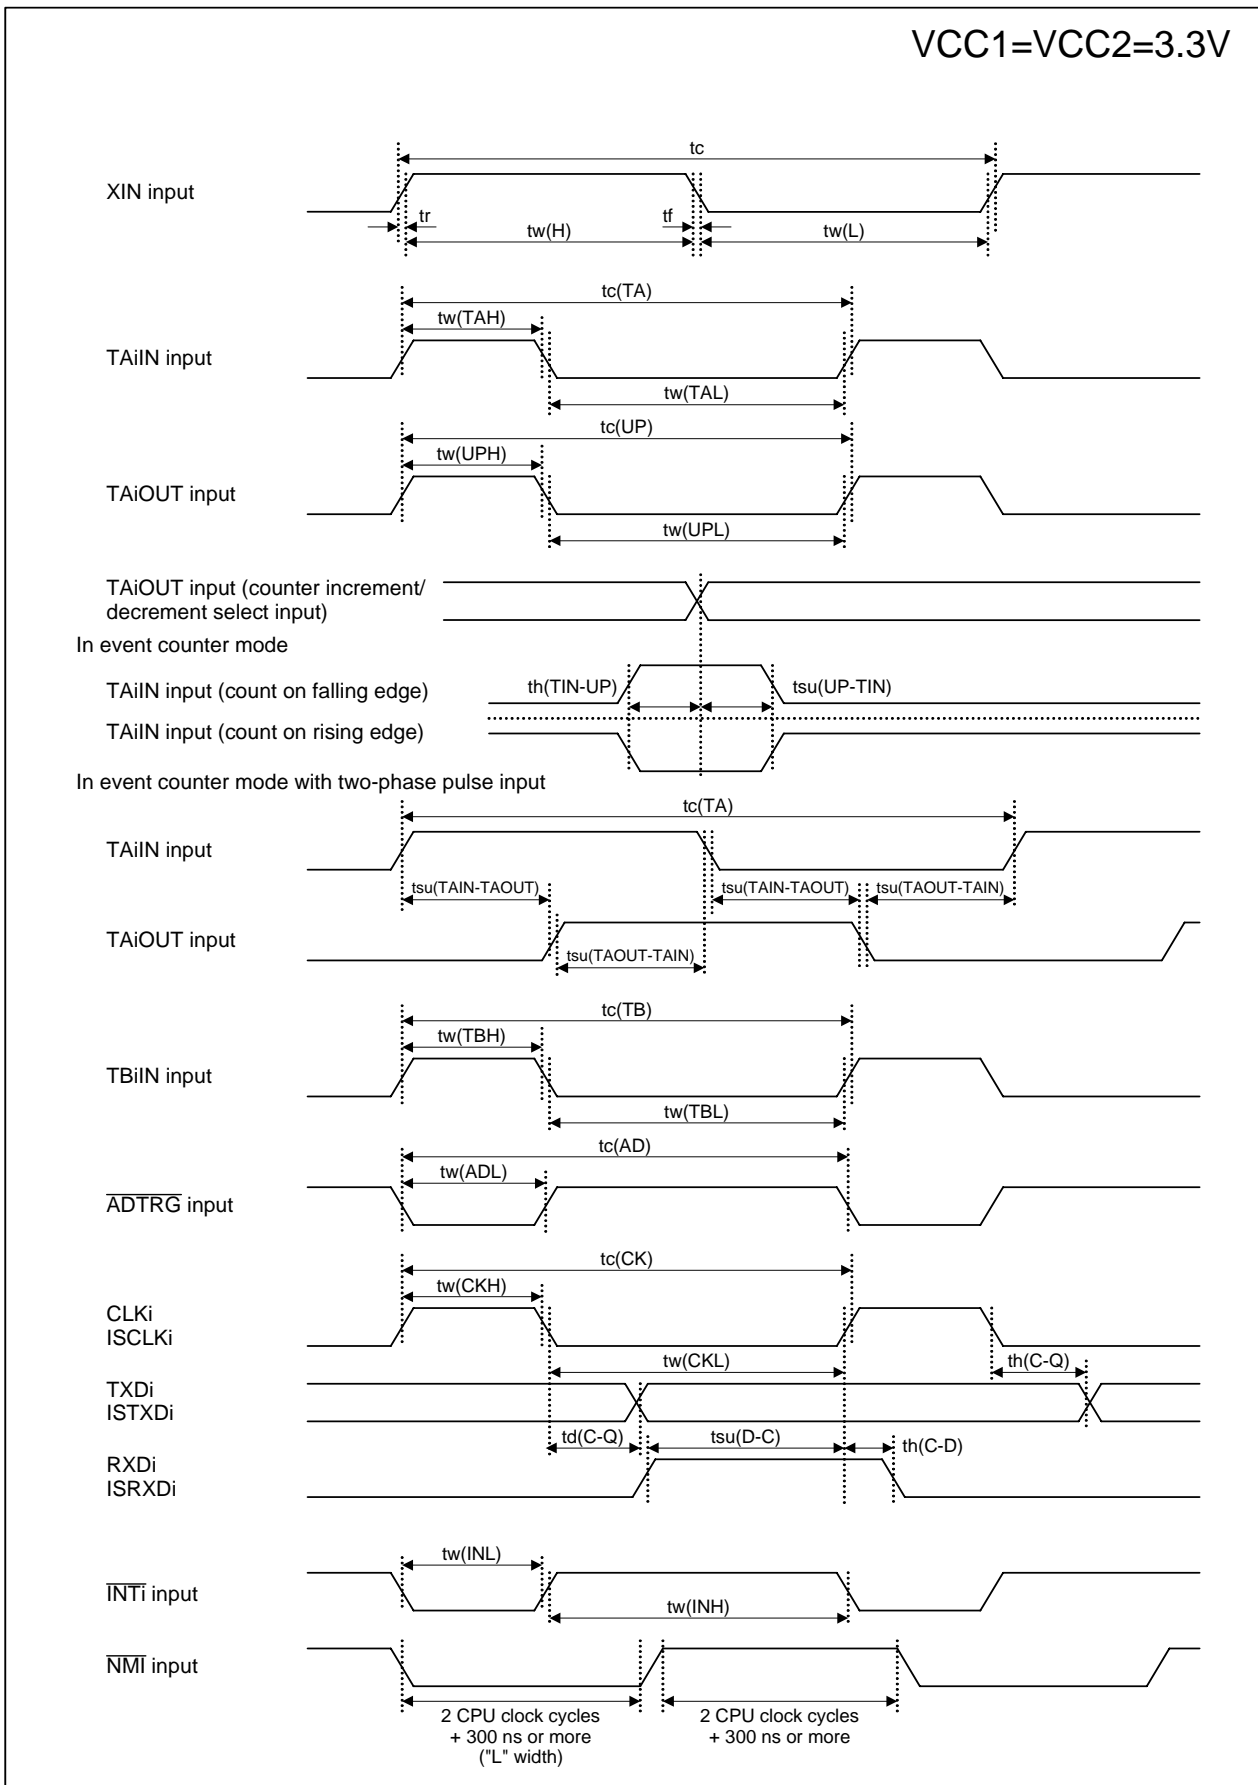

Figure 5.7 VCC1 = VCC2 = 3.3 V Timing Diagram (1/4)
71	• Figure 5.7 Vcc1=Vcc2=3.3V Timing Diagram (1) $t_h(BCLK-AD)$, $t_h(BCLK-CS)$ and $t_h(BCLK-RD)$ values modified; $t_{ac1}(AD-DB)$ expression on note 2 modified; $t_h(WR-DB)$, $t_h(WR-AD)$ and $t_w(WR)$ expression on note 3 modified; t_{cyc} expression added
47	Electrical Characteristics <ul style="list-style-type: none"> • [Term changed] Low Voltage Reset → Hardware Reset 2 Low Voltage Detection → Vdet3 and Vdet4 detection circuit • Table 5.1 Description in Condition field of Pd (Power consumption) partially modified • Tables 5.2 to 5.9 f(BCLK) is changed to f(CPU) • Table 5.4 Description added in Parameter field of f(CPU); f(VCO) added • Tables 5.5 to 5.7 and Tables 5.31 to 5.33 Description in XCOUT and Hysteresis in Parameter fields partially modified • Table 5.7 and 5.33 Structure and standard values revised; items in Measurement Condition and NOTE added • Table 5.8 Description in Parameter field and NOTE partially modified • Table 5.9 and 5.10 Description in Parameter field and NOTE partially modified • Tables 5.11 and 5.36 Description in Parameter field and standard value partially modified • Tables 5.19 and 5.42 added • Table 5.24 Values revised; Table 5.25 and 5.26 added • Table 5.27 Titles modified; NOTE added • Table 5.28 moved to the last table in Timing Requirements • Table 5.29 NOTE 3 added; Table 26.30 NOTE 5 added • Figures 5.3 to 5.6 Order rearranged; measurement condition modified • Table 5.31 to 5.35 f(BCLK) revised to f(CPU) • Table 5.47 Values revised; Table 5.48 and 5.49 added • Table 5.50 Titles modified; NOTE added • Table 5.51 Table moved to the last table in Timing Requirements • Table 5.52 NOTE 3 added; Table 5.53 NOTE 5 added • Figures 5.7 to 5.10 Order rearranged